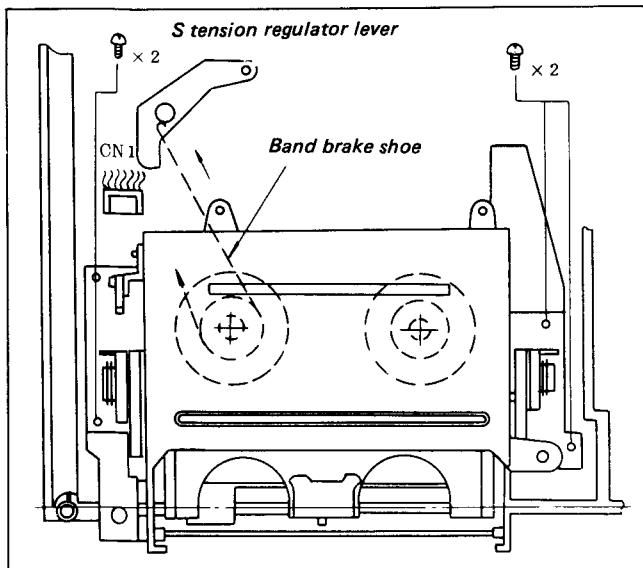

Fig. 3-8. Replacement of Cassette-Lift Assembly
- Measure the height of the reel table with a slide caliper prior to the removal of the old reel table. (See Fig. 3-8.)